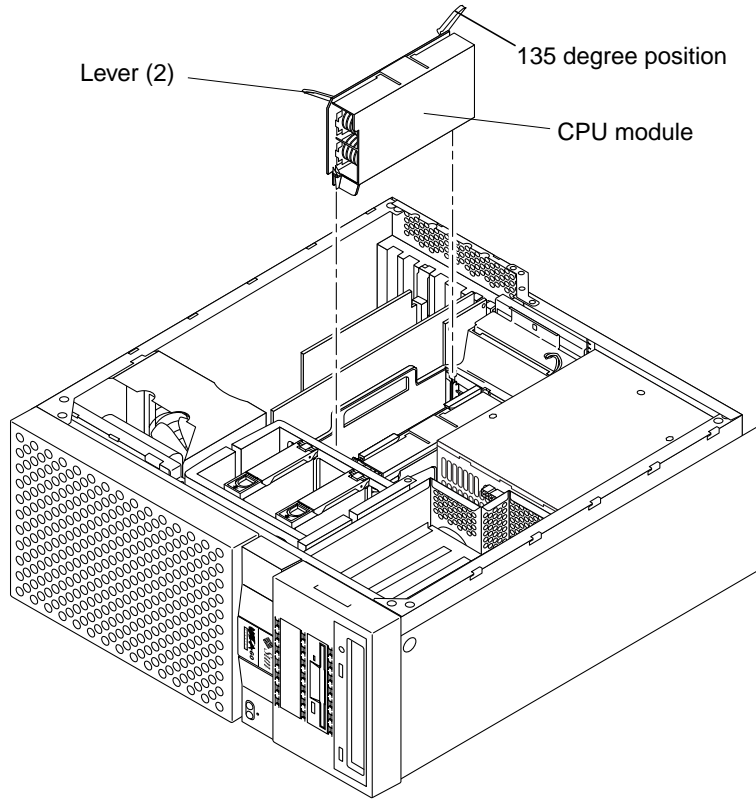

FIGURE 5 Removing and Replacing the CPU Module
1. **Remove the CPU module as follows (FIGURE 5):**
1. On the antistatic mat, hold the CPU module in an upright position with the plastic surface facing you (FIGURE 5).